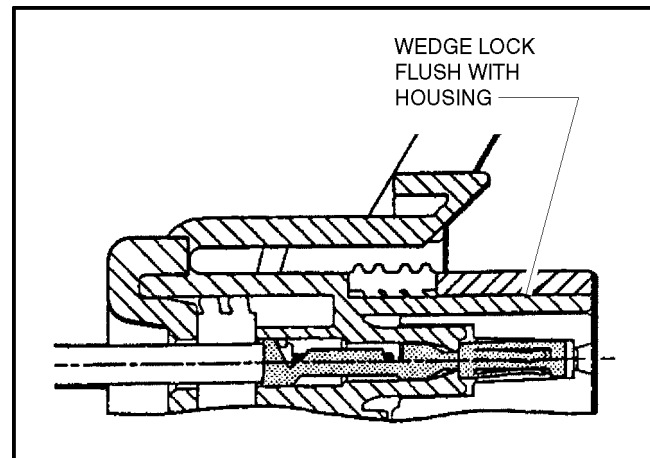

Figure 8-5. Connector Assembly Figure 4
4. Slide the wedge lock into the housing until it is flush with the housing (See Figure 8-5.).